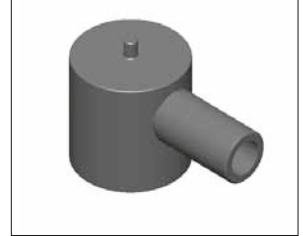

fig 10
- Connect the “Slimskim” pump chamber (F) to the impeller cover (G) –fig.10